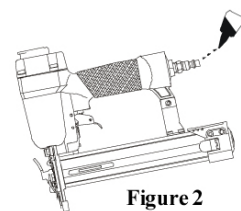

Figure 2
1. Determine if the tool needs oil and, if necessary, place two drops of oil in the air plug as shown in figure 2.